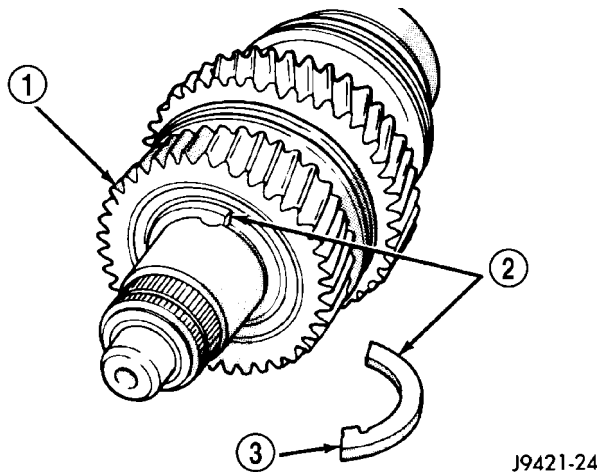

Fig. 39 TWO-PIECE THRUST WASHER
(5) Remove two-piece thrust washer (Fig. 39).